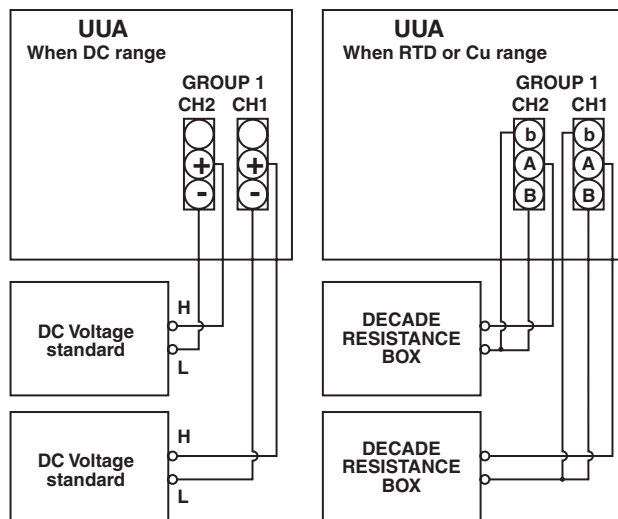

Figure 4.1 Connection diagram.
- 1 Connect the equipment according to figure 4.1.